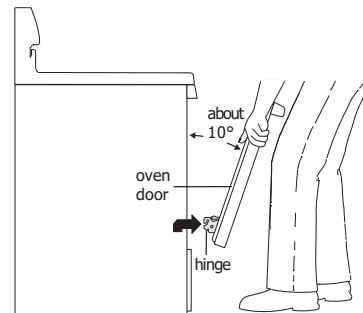

Figure 18: How to remove door
3. Firmly grasp both sides of oven door along the door sides (Do not use the oven door handle - Figure 18).
1. Firmly grasp both sides of oven door along the door sides (Do not use the oven door handle - Figure 18).